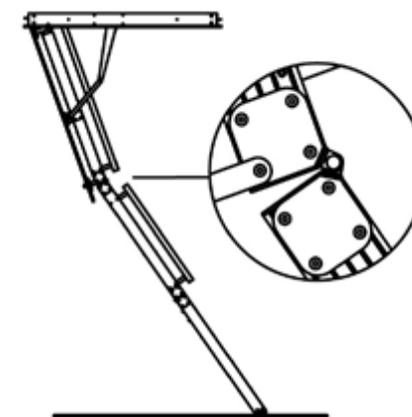

Figure 6
1. With one person in the attic and the other in the room below, pull down the door and unfold your ladder as shown in figures 6 or 7 on page 7.
5. If the attic ladder looks like Figures 6 or 7 on page 7, then it is not safe to use.